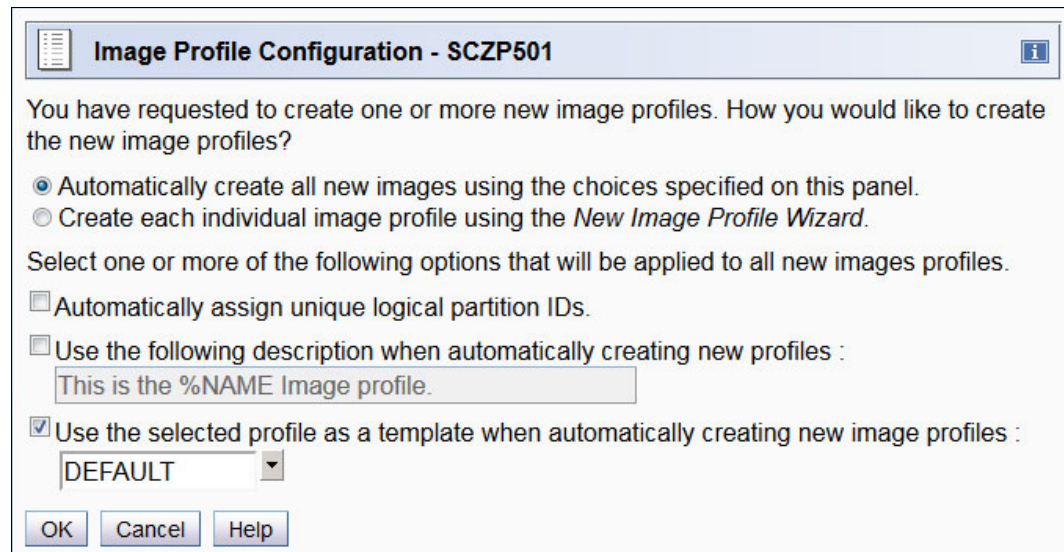

Figure 6-143 HMC - Image Profile automatic build options
10. The HMC retrieves any Image profiles that match the LPAR names in the IOCDS that was selected. It also allows you to create new Image profiles for those that it cannot retrieve. In the example, the last option is selected. Click **OK** (Figure 6-143).